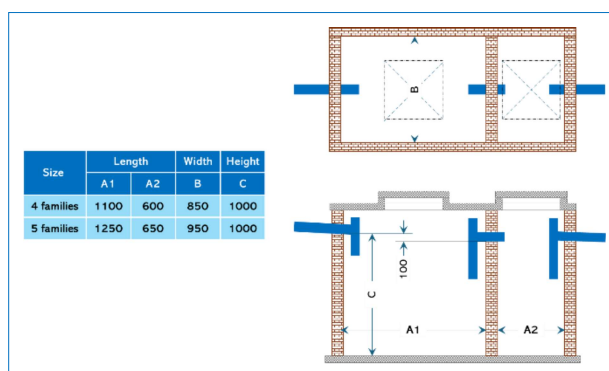

Figure 7: Dimensions for 4 and 5 family's septic tank
The different types of tanks with their individual dimensions are shown in Figures 7 and 8.
- 2) Dig a pit big enough to accommodate the septic tank. Dimensions are provided in figures 7 and 8. The pit must be large enough for at least two people to work in.